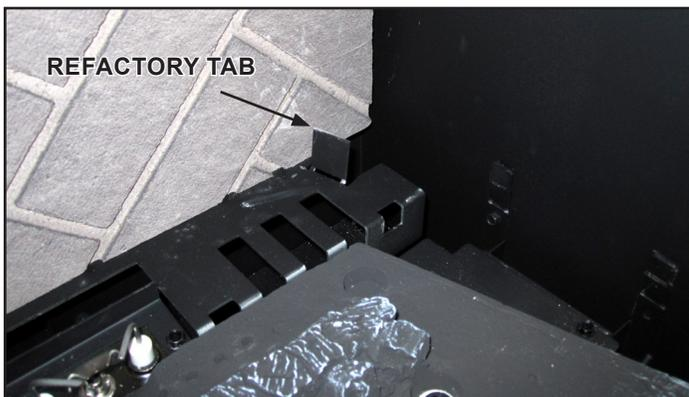

Figure 10.7 - Place Right Side Refractory
2. Place right side panel by inserting the front (tall edge) into the front firebox corner and then press the narrow end up to the refractory tab, Figure 10.7